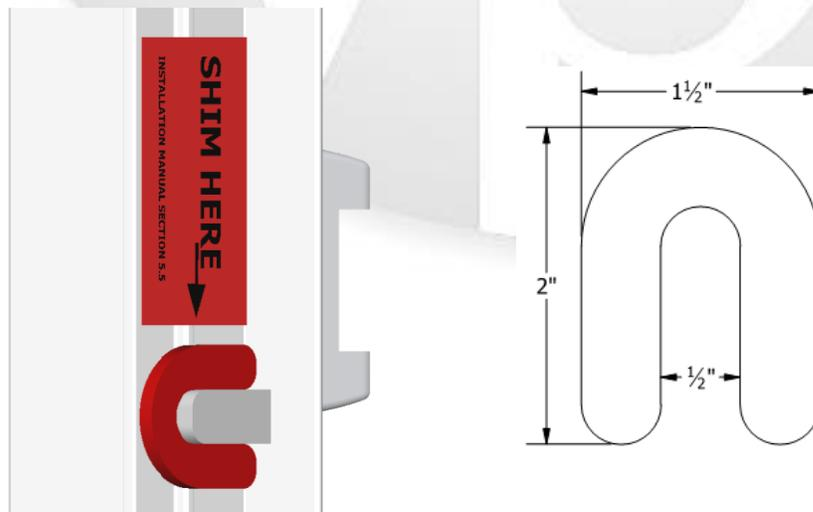

Figure 11: Jamb Shim Shelf Application
- l) Shims must be constructed from high impact non-deteriorating and corrosion resistant material such as PVC or similar plastic. Horseshoe shims as shown in *figure 11* are recommended and will be needed in various thicknesses to achieve proper installation.
C) A “SHIM HERE” label in addition to a VPI Shim Shelf foam block as shown in *figure 11* is included at all required jamb shim locations. The Shim Shelf will provide a safety net to keep shims in place during the remainder of the installation process. Shims of the size in *figure 11* (available from Glazelock) are an ideal fit, but most shims are compatible.